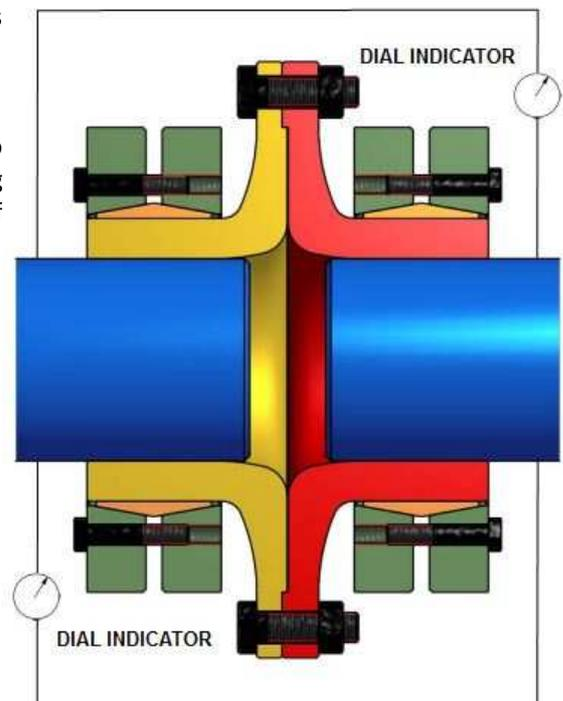

Figure 7. Flange Coupling installed – check of runout
14. Using dial indicators per figure 7, make sure that runout values are within 0.13 mm TIR (total indicator reading).